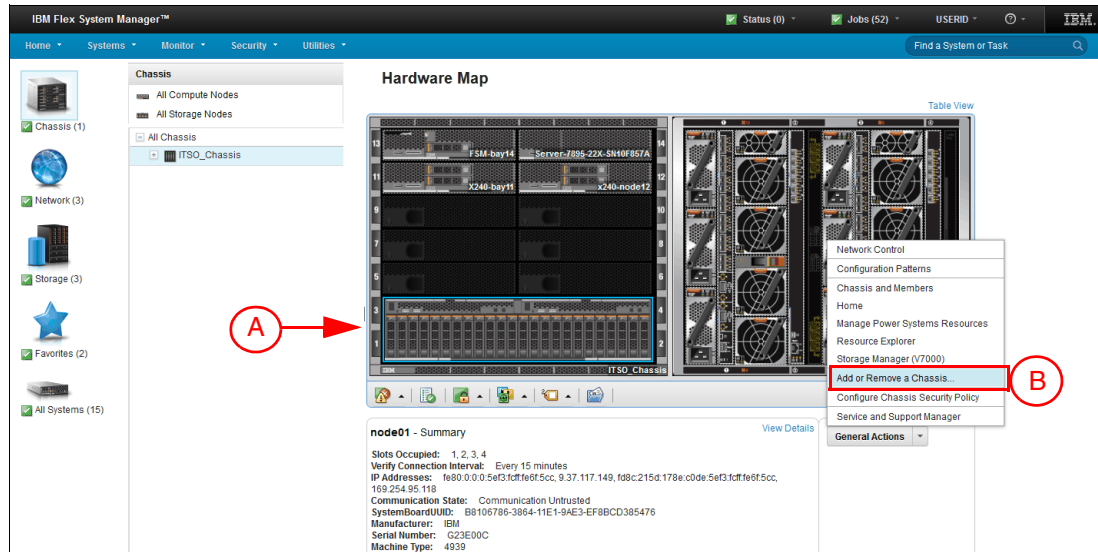

Figure 4-4 Add a chassis in to Chassis Manager
3. From the Chassis Manager page in the management software web interface, click the chassis name that contains your applicable storage node as shown in Figure 4-4 on page 157 (A) and continue to Step 4 on page 157. If the chassis is not displayed, add the chassis by performing the following steps:
- Select **General Actions** → **Add or Remove a chassis**, as shown in Figure 4-4 on page 157 (B).